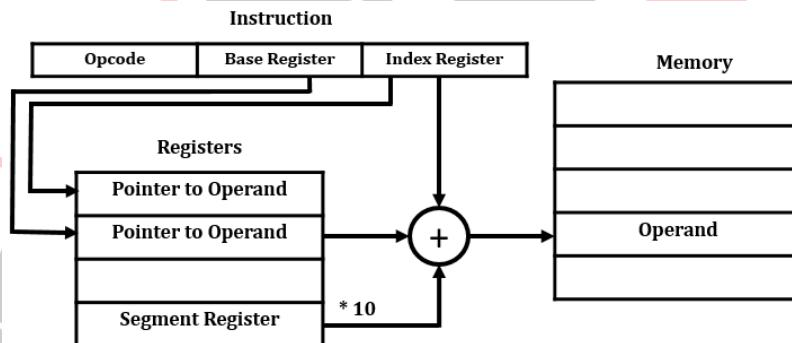

Figure 2.10: Based Indexed Addressing Mode.
- The sum is added with the segment register \* 10 H to generate Effective Address as shown in figure 2.10.